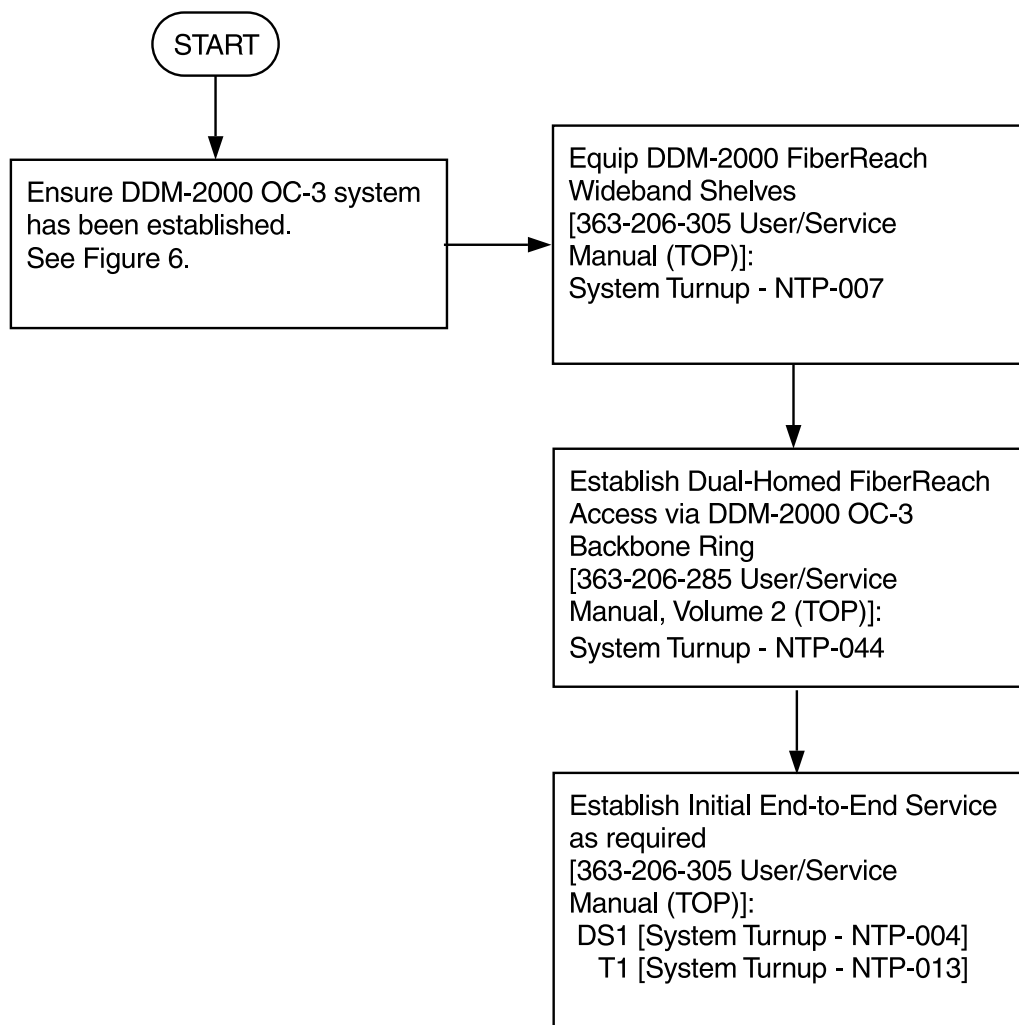

Figure 12. DDM-2000/FT-2000 Large Network Configurations — Dual Homed FiberReach Access via DDM-2000 OC-3 Backbone Ring
- Figure 12 Dual-Homed FiberReach Access via DDM-2000 OC-3 Ring